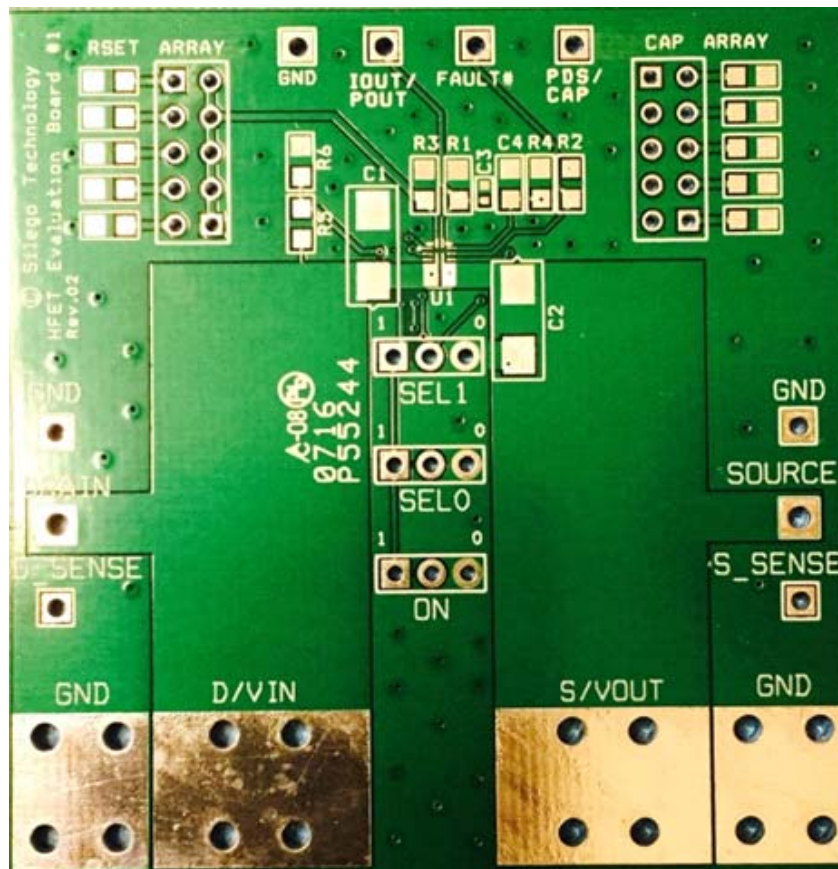

Figure 9. SLG59H1009V Evaluation Board
1. Since the  $V_{IN}$  and  $V_{OUT}$  pins dissipate most of the heat generated during high-load current operation, it is highly recommended to make power traces as short, direct, and wide as possible. A good practice is to make power traces with an absolute minimum widths of 15 mils (0.381 mm) per Ampere. A representative layout, shown in Figure 9, illustrates proper techniques for heat to transfer as efficiently as possible out of the device;
A HFET1 Evaluation Board for SLG59H1009V is designed according to the statements above and is illustrated on Figure 9. Please note that evaluation board has  $D\_Sense$  and  $S\_Sense$  pads. They cannot carry high currents and dedicated only for  $R_{DS(ON)}$  evaluation.